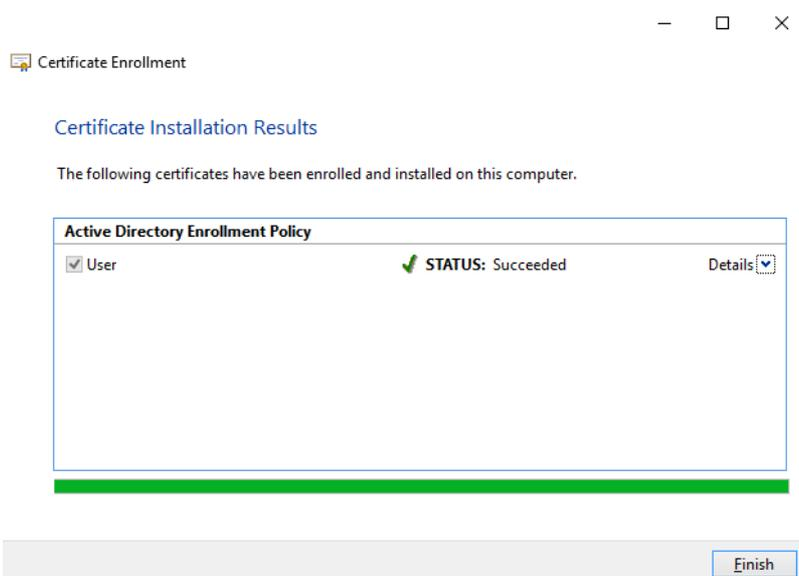

Figure 2-37. Finishing Certificate Enrollment
- Click **Enroll** to display the Certification Installation Results page, see Figure 2-37.